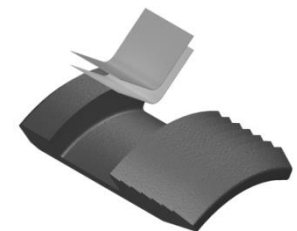

Fig. 3
**NOTE:** Uses two (2 ea) springs per slip (Fig. 3).